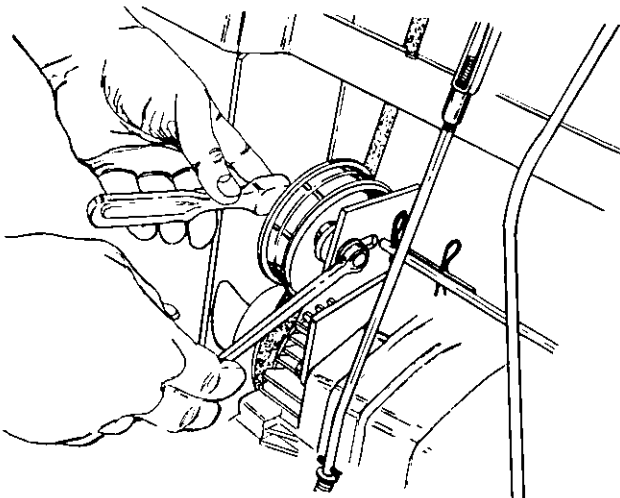

FIGURE 27.
4. Remove the idler pulley at hydrostatic pump by removing 3/8" hex bolt, hex nut, Belleville washer and flat washer. See figure 27.